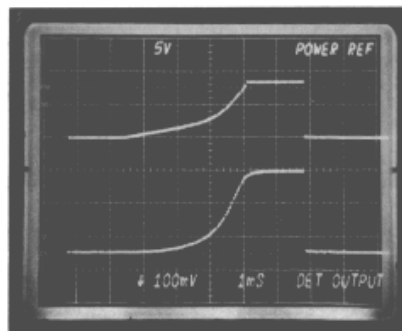

Figure 5-1. Source/Amplifier Power Ref/Detected Output
8. Channels A and B should have similar waveforms, with maximum detector output approximating 1 watt at A201J2 (see Figure 5-1).